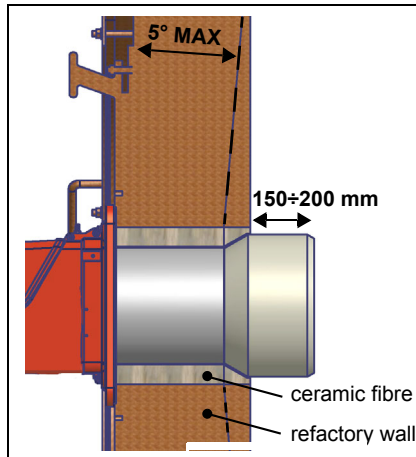
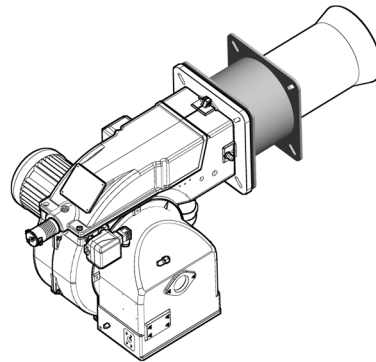

Fig. 4
Fig. 5
The burners described in this manual have been tested with combustion chambers that comply with EN676 regulation and whose dimensions are described in the diagram. In case the burner must be coupled with boilers with a combustion chamber smaller in diameter or shorter than those described in the diagram, please contact the supplier, to verify that a correct matching is possible, with respect of the application involved. To correctly match the burner to the boiler verify the type of the blast tube. Verify the necessary input and the pressure in combustion chamber are included in the burner performance curve; otherwise the choice of the burner must be revised consulting the burner manufacturer. To choose the blast tube length consider the following rule, even if it differs from the instructions of the boiler manufacturer: Cast-iron boilers, three pass flue boilers (with the first pass in the rear part): the blast tube must protrude about 150÷200 mm into the combustion chamber (Fig. 4). The length of the blast tubes does not always allow this requirement to be met, and thus it may be necessary to use a suitably-sized spacer to move the burner backwards (Fig. 5).
- 1-b) in case of flanged joints: place a gasket (no. 1A..1E - Fig. 4) between the elements;
ATTENTION: once the gas train is mounted according to the diagram on Fig. 4, the gas proving test must be performed, according to the procedure set by the laws in force.